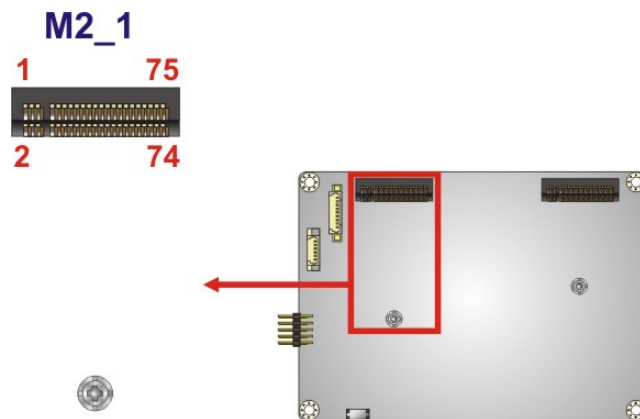

Figure 3-12: M.2 B-key Slot Location
- CN Location:** See **Figure 3-12**